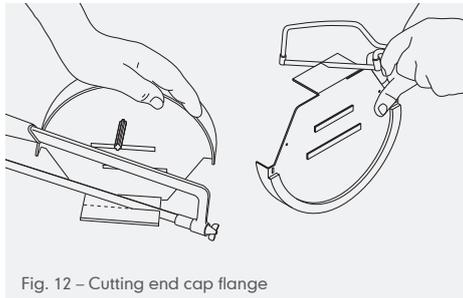
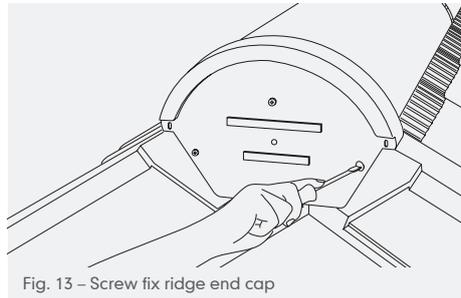

Fig. 12 – Cutting end cap flange
Fig. 13 – Screw fix ridge end cap
- 12 If required, trim flange of ridge and cap to fit between top course verge units (Fig. 12, page 155). Screw ridge end cap to end of dry ridge batten by locating 30mm stainless steel screws into end of circular beads on upper flange (Fig. 13, page 155).
- 13 Screw ridge end cap through top course verge unit, to end of top course tiling batten. Locate 30mm stainless steel screw (provided) through lower, partly formed fixing holes (Fig. 12).
- 14 If required, trim flange of ridge end cap to fit between top course verge units. (Fig. 13). Top course verge unit is secured to end of top course tiling batten in normal manner.